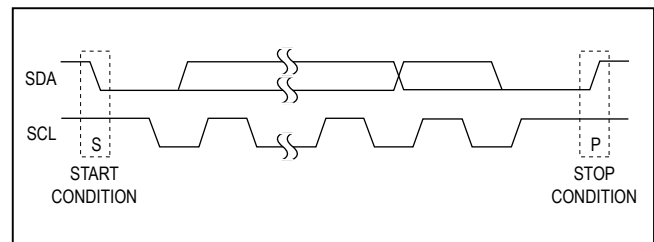

Figure 2. START and STOP Conditions
Each transmission consists of a START condition sent by a master, followed by the MAX7320's 7-bit slave address plus R/W bit, one or more data bytes, and finally a STOP condition (Figure 2).
Both SCL and SDA remain high when the interface is not busy. A master signals the beginning of a transmission with a START (S) condition by transitioning SDA from high to low while SCL is high. When the master has finished communicating with the slave, the master issues a STOP (P) condition by transitioning SDA from low to high while SCL is high. The bus is then free for another transmission (Figure 2).